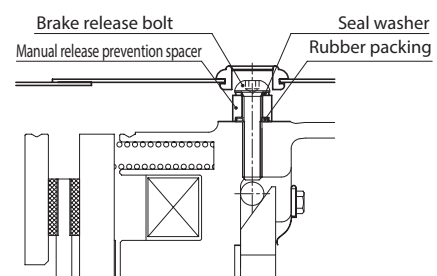

Figure 8-46
- (2) After releasing the brake, to return it to its original condition, for safety, return the manual release prevention spacer and the rubber gasket [3] that were removed in (1) to their original positions, and firmly tighten the brake release bolt [2]. (See Figure 8-46) Next re-attach the grommet [28] (indoor type) in its original state. In the case of outdoor types, attach the lid on the window part of the outdoor cover [33] as it was before.